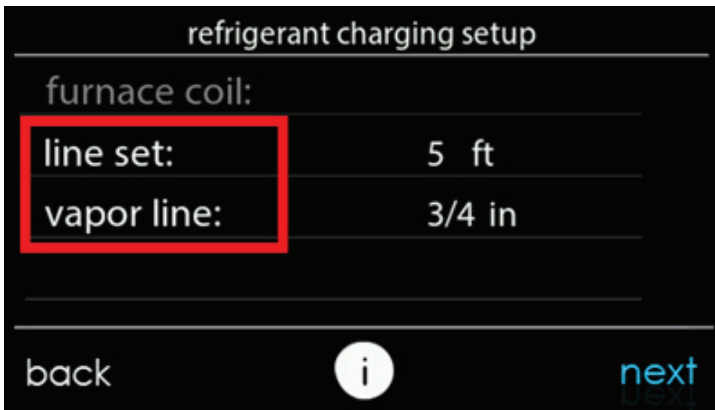
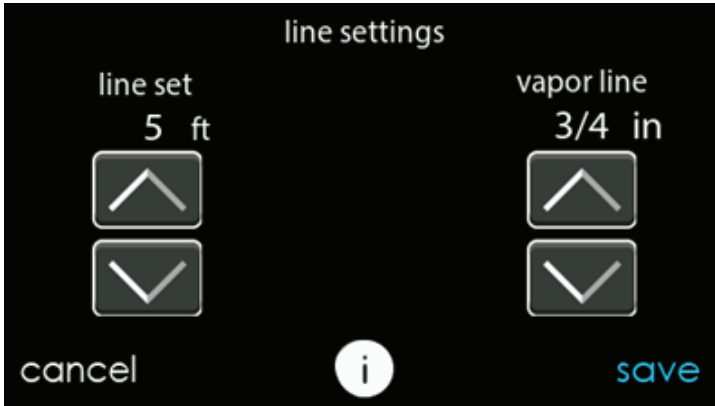

Fig. 16 – Select Line Set Length & Vapor Line Diameter
Fig. 17 – Adjust Line Set Length & Vapor Line Diameter that is Installed
11. Press the text "line set" and "vapor line" to choose line set length and vapor line diameter (see Fig. 16 and Fig. 17). After complete, press "next" to advance to next screen.